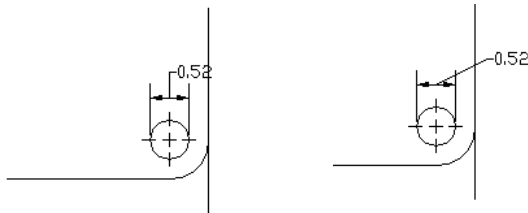

Figure 15-20: Dimension text is placed over the dimension line with a leader. On the right, the text has been moved to the right of the model.
- ♦ **Over Dimension Line, with Leader:** Places the dimension text over the dimension line and between the extension lines, but above them, with a leader from the dimension line to the text. You can move the text anywhere to suit your needs and dimensioning conventions, as shown in Figure 15-20.